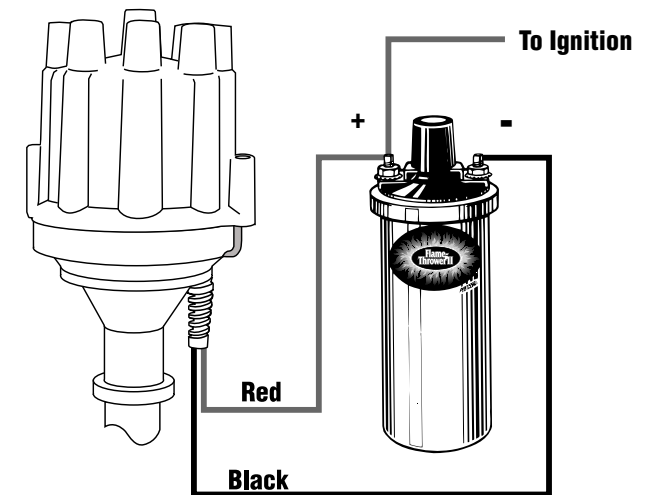

FIGURE 3
1. Attach the black Ignitor II wire to the negative (-) coil terminal. (See Figure 3)
2. Attach the red Ignitor II wire to the positive (+) coil terminal. (See Figure 3)